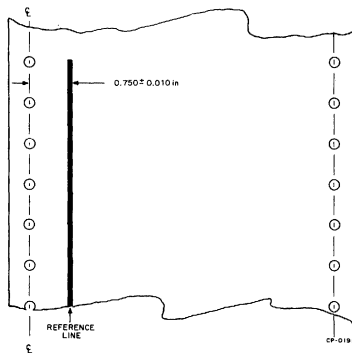

Figure 5-7 Checking Left Margin
2. Prepare a length of paper from the LA30 paper supply by drawing in a reference line in pencil or ink 0.0750 ± 0.010 inches in from the left hand sprocket hole center line. (Figure 5-7)